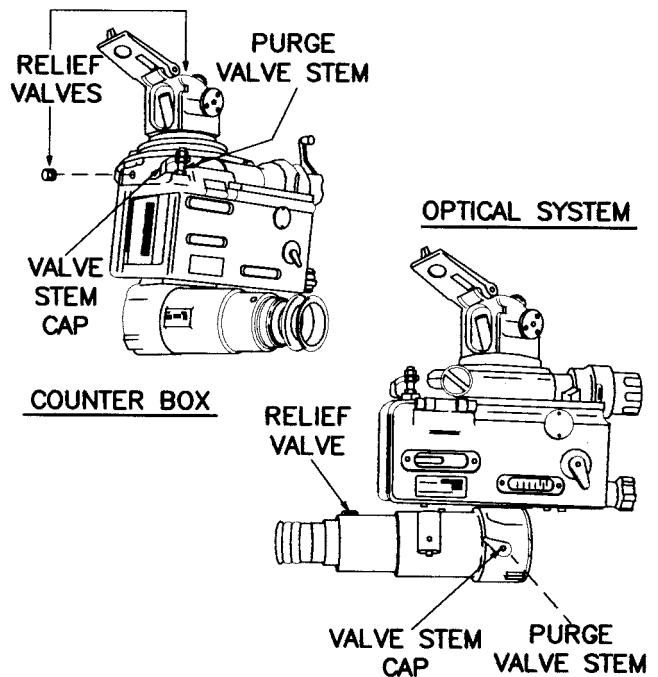

Figure 3-75 M137A1 Panoramic Telescope
(2) Optical Assembly.
g. Panoramic Telescope, M137A1 (fig. 3-75).